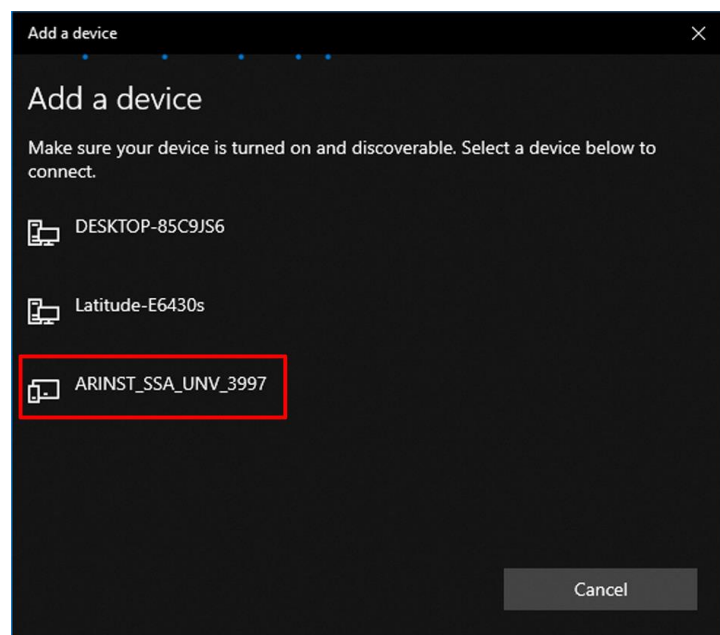

Figure A12 - List of devices available for connection
4.4. The PC operating system will search for all active Bluetooth devices. The devices available for connection will be displayed in the list (Figure A12).